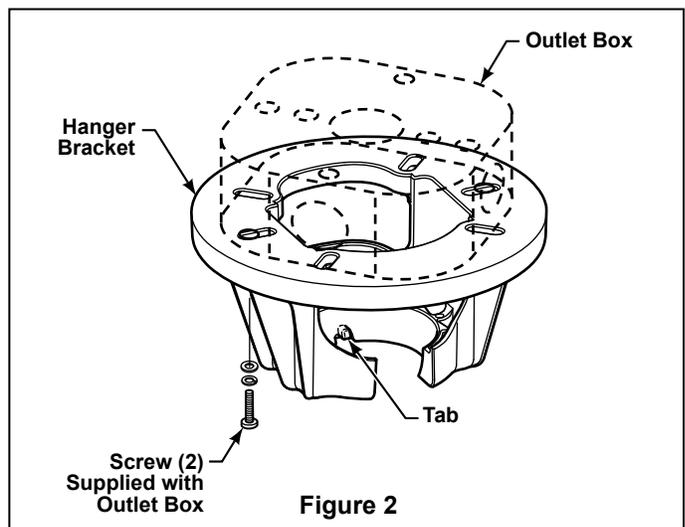
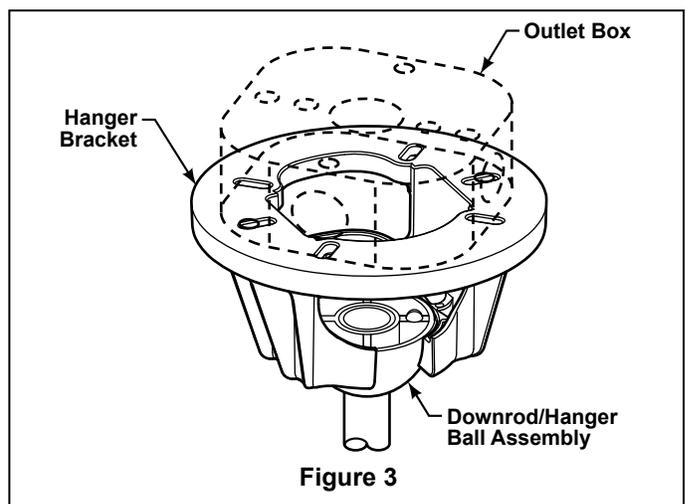

Figure 2
Figure 3
4. Loosen the two setscrews in the Downrod Support. Align the Clevis Pin holes in the Downrod with the holes in the Downrod Support. Install the Clevis Pin and secure with the Hairpin Clip. (Figure 3) Be sure to push the straight leg of the hairpin clip through the hole near the end of the clevis pin until the curved portion of the hairpin clip snaps around the clevis pin. The hairpin clip must be properly installed to prevent the clevis pin from working loose. Pull on the Downrod to make sure the clevis pin is properly installed.
5. Route wires through Motor Coupling Cover (Fig 2) or the Decorative Sleeve (Fig 3) and through opening in Canopy. Position Canopy on fan shown with open side facing up. (Figure 4)
7. While pulling up on the hanger ball, securely tighten the two setscrews with nuts in the downrod support. (Figure 2 & 3)
8. Slide the Motor Coupling Cover (Fig 2) or the Decorative Sleeve (Fig 3) down until it touches the top of the Housing.
1. Securely attach the hanger bracket to the outlet box using the outlet box screws and washers supplied with the outlet box (Figure 2).
NOTE: Outlet box screws pass through slotted holes of the hanger bracket (Figure 2).
3. Carefully lift the fan and seat the downrod/hanger ball assembly on the hanger bracket that was just attached to the outlet box (Figure 3). Be sure the groove in the ball is lined up with tab on the hanger bracket (Figure 2).
- Slide Receiver Unit into the Hanger Bracket (Fig 2).
- Connect wires as indicated: (Figure 3)